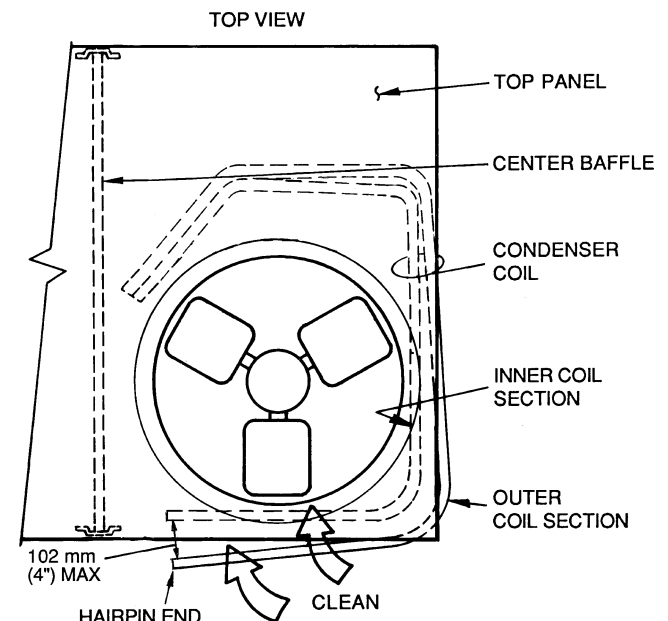

Fig. 42 — Separating Coil Sections
5. Remove fastener holding coil sections together at return end of condenser coil. Carefully separate the outer coil section 3 to 4 in. from the inner coil section. See Fig. 42.